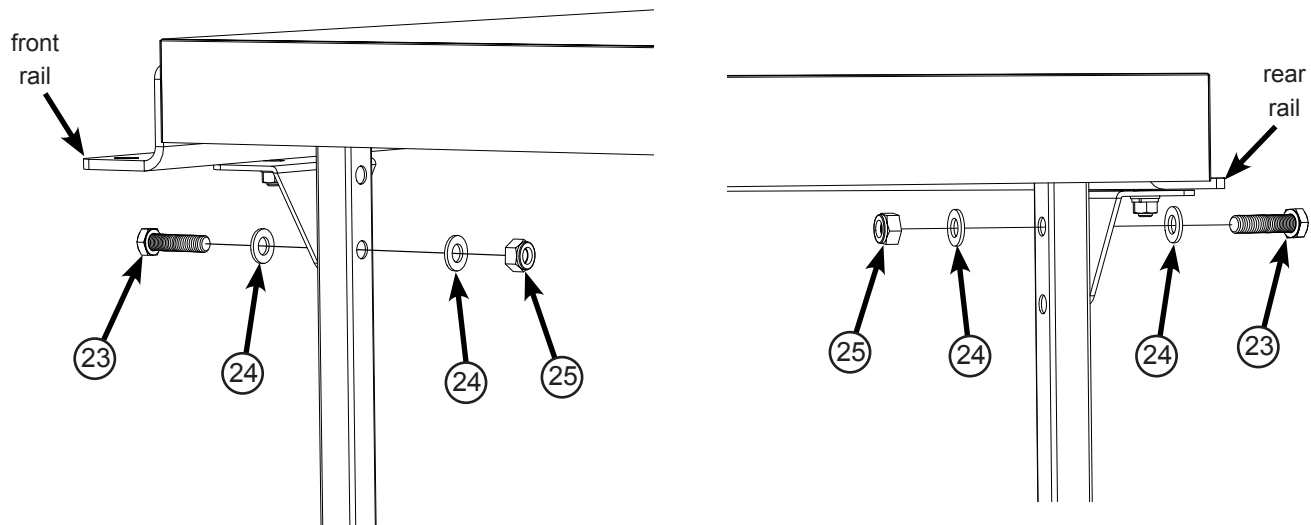

Fig. 9
Attach each support leg to the corresponding leg support bracket with an M10 x 40 hex head bolt (23), two M10 washers (24), and an M10 lock nut (25), as shown in Fig. 9, and fully tighten the bolts using two 17 mm wrenches. Note that the leg support brackets align with different holes in the front and rear legs because the brackets are at different elevations.